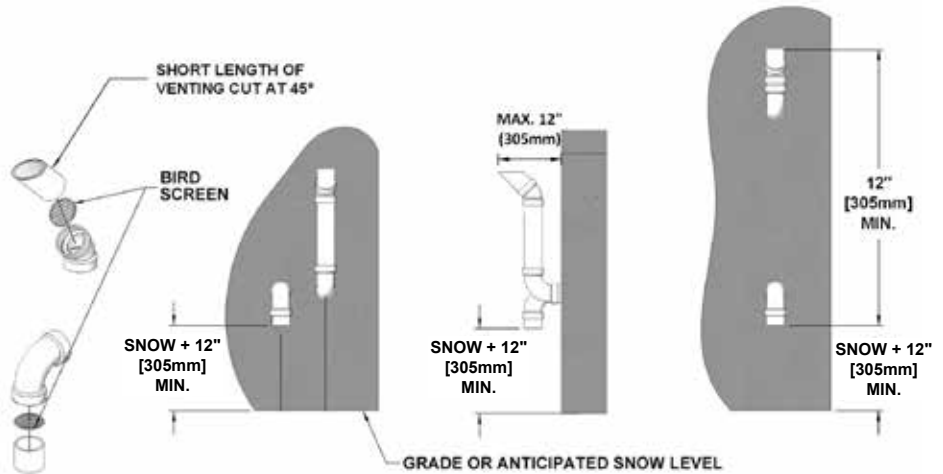

Figure 13: Sidewall vent termination - piping configuration
- The elevation of both pipes can be raised in "periscope style" after passing through the wall, then configured as in *Figure 13*, to gain required clearance.